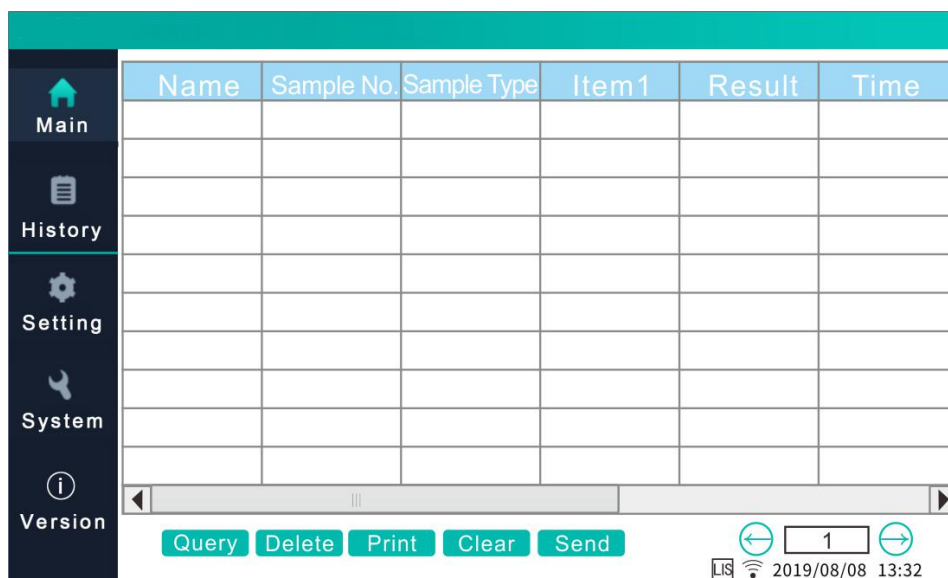

Figure 5.7
3.1 Click “**History**” on the left of the instrument to enter the query interface, the test results will be listed. (See **Figure 5.7**)